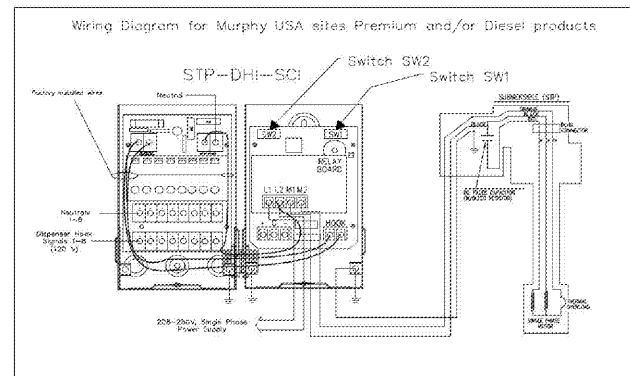

Figure 1
**NOTE:** When wired according to Figure 1, STP-SCI will stop operating when either STP-DHI or STP-SCI are de-energized. When a STP-SCI is de-energized, the Hook signal will remain energized when the STP-DHI is energized and any dispenser signal 1-8 is present.